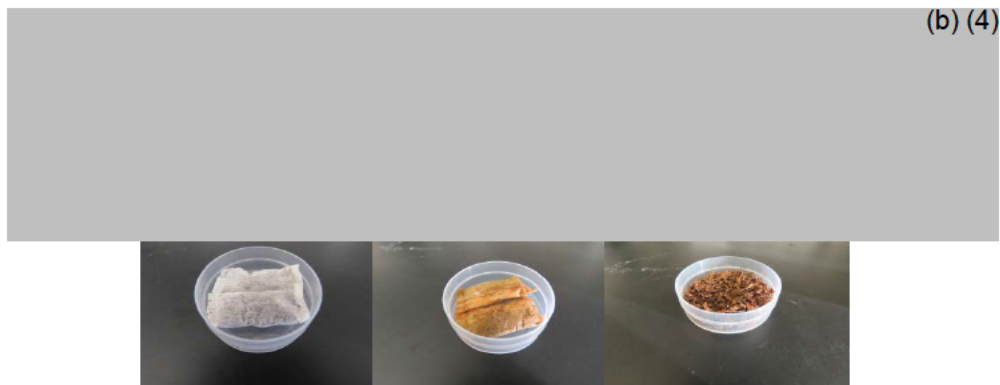

Figure 1. Orientation and placement of tobacco products in sampling cups. From left to right: (b) (4)
- 2) For (b) (4) samples – Add samples until the bottom of the cup is covered. For (b) (4) this would consist of 5 pieces per cup (b) (4) – 3 pieces per cup, (b) (4) – 4 pieces per cup, (b) (4) – 4 pieces per cup. Note, with proper orientation, the (b) (4) samples may be above the one-half fill line (see Figure 1).